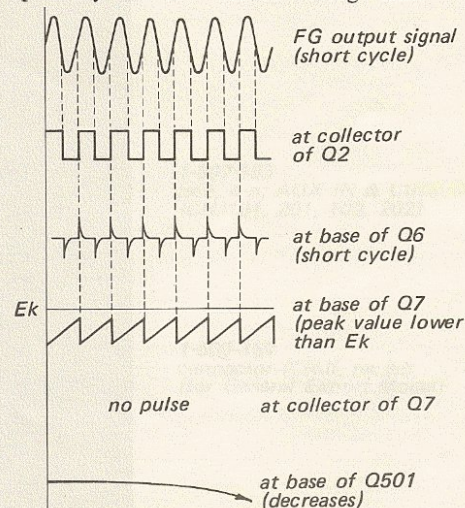

Fig. 1-5. When motor speed becomes faster
1. Motor Speed Becomes Faster (Fig. 1-5).